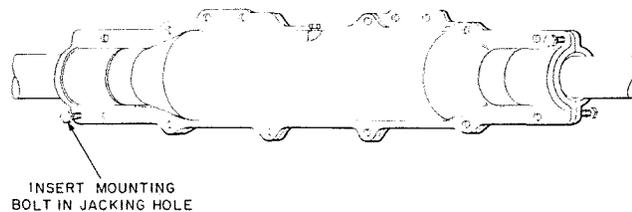

Fig. 31—Splice Case Jacking Holes With Mounting Bolts in Place
5.02 Insert four mounting bolts in the jacking holes provided near the ends of each case as shown. Tighten alternately, about two turns on each bolt, until one or both cases are free from the cable (Fig. 31).